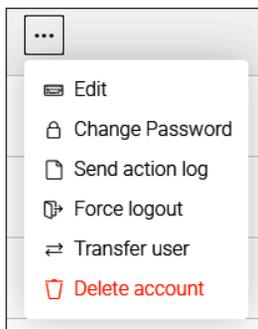

Figure 66. Transfer User 1
4. Click on the “...” menu on the right of the user that wants to be transferred, and click on “Transfer user”. See **Figure 66**.